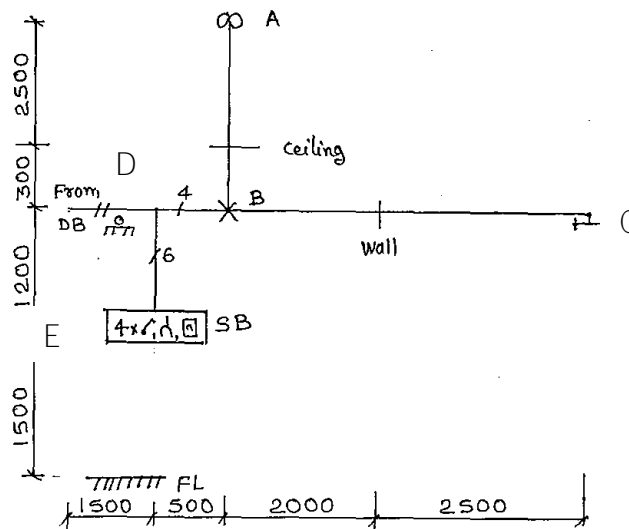

Figure 1.
- a) i) Study the given single line diagram shown in Figure 1 and answer the following questions.
- i. Identify the type of wiring. (1)
- ii. Identify any two symbols. (1)
- iii. Estimate the length of wire required for the given installation. (2)